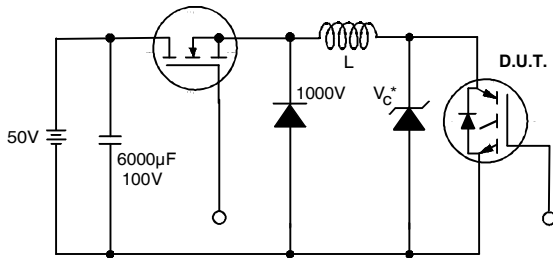

Fig. 13a. Clamped Inductive Load Test Circuit
- ② $V_{CC} = 80\% (V_{CES})$, $V_{GE} = 20V$, $L = 10\mu H$, $R_G = 5.0\Omega$, (see figure 13a)
- ③ Repetitive rating; pulse width limited by maximum junction temperature.
- ④ Pulse width $\leq 80\mu s$; duty factor $\leq 0.1\%$.
- ⑤ Pulse width $5.0\mu s$, single shot.